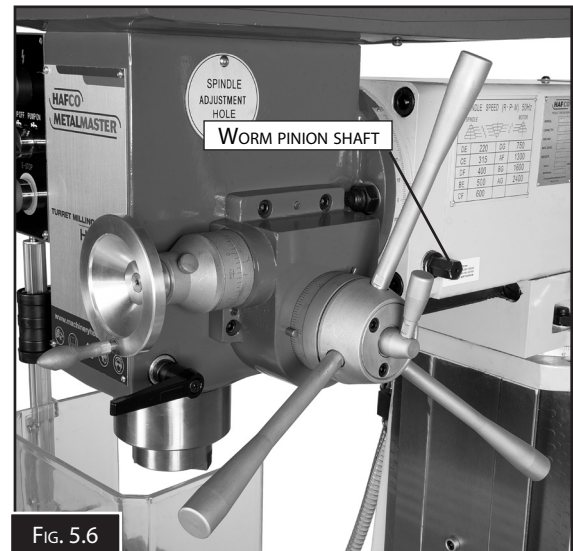

FIG. 5.6
3. It then will be possible to tilt the head down to the required position, by slowly turning the hexagon worm pinion shaft on the right hand side behind the spindle, (Fig.5.6) either clock wise or anticlockwise.